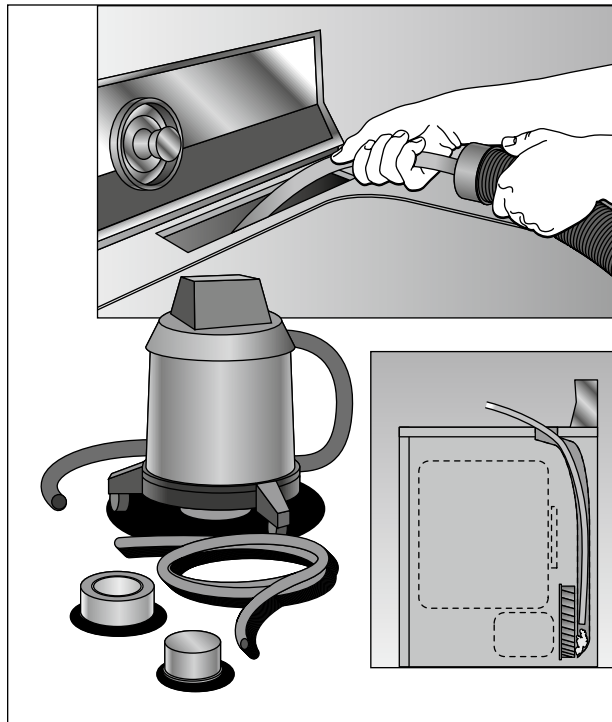

FIGURE 14-1:
- » **Remove lint that accumulates at the bottom of the housing that contains the lint screen.** Construct a mini vacuum hose attachment using a short piece of rubber hose, the cap to an aerosol can, and some duct tape. The cap acts as an adapter that fits over the end of a wet/dry vacuum hose. Make a hole in the center of the cap the size of the outside diameter of the hose. Insert the hose snugly into the hole and attach the two with duct tape. Attach the cap to the end of a wet/dry vacuum and insert the hose into the filter housing until it reaches the bottom. (See Figure 14-1.)